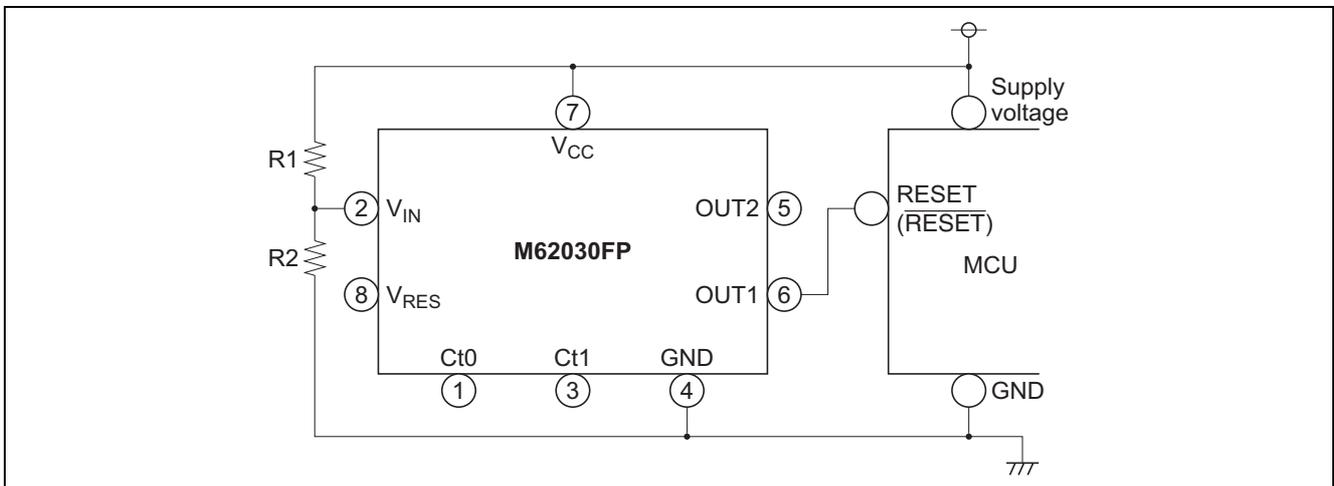

Figure 1 The Application to Microcomputer System
- The detecting voltage can be adjusted by changing R1 and/or R2 in the figure 1.